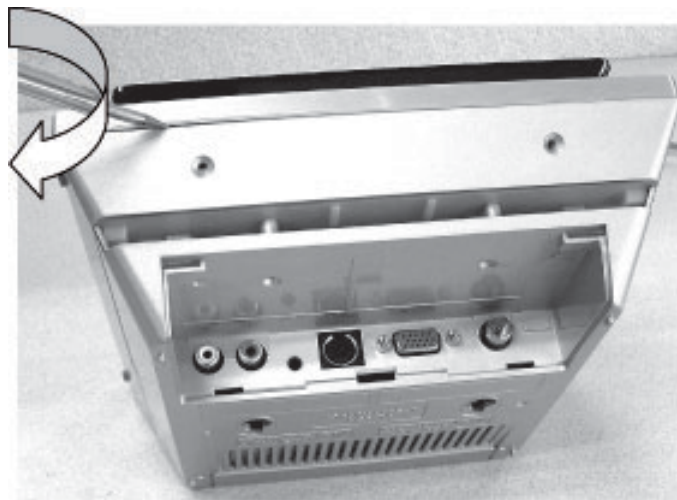

Figure 2
- 2) Place a small flat screw driver in between the front & rear cabinets and roll the screw driver along the joint as shown in figure 2.